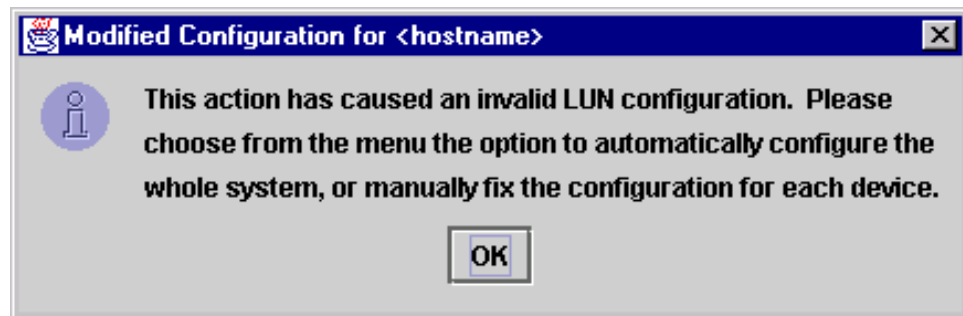

Figure 25. Modified Configuration Error dialog window
- Click **Set Unconfigured** to set this path as not visible to the operating system. The path is not used in failover conditions. If setting the path has caused the LUNs associated with this device to have an invalid configuration, the error message shown in Figure 25 displays. This problem is usually the result of changing the configuration state of a device. You must modify the LUN configuration for this device before you can save or apply the configuration.